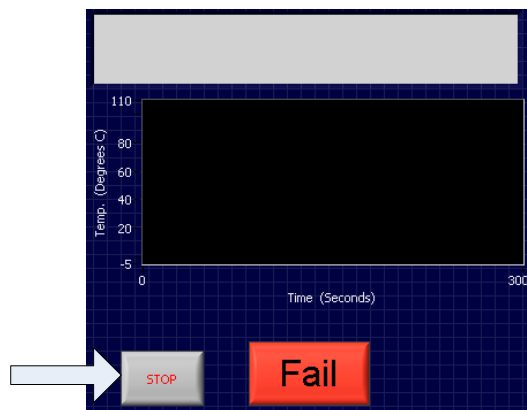

Figure 16
- 1.20.5. The operator needs to note that this test takes approximately ½ hour, should the test take an inordinate amount of time the test can be stopped with the Stop button in the test status window (see Figure 16).